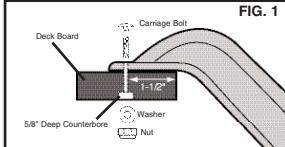

FIG. 1
2. Align top of slide square with platform opening. **NOTE:** Slide should be 90 degrees to deck. Mark hole locations approximately 1-1/2" from the front edge of the slide platform (See Fig. 1) Drill three holes through the deck at the previously marked locations using a 5/16" drill bit. **NOTE:** Each hole must be counterbored on the UNDER-SIDE of the deck approximately 5/8" deep using a 1-1/8" spade bit. (See Fig. 1)
3. Attach the top of the slide to the deck using three 2" carriage bolts, washers and nuts. (See Fig. 1)